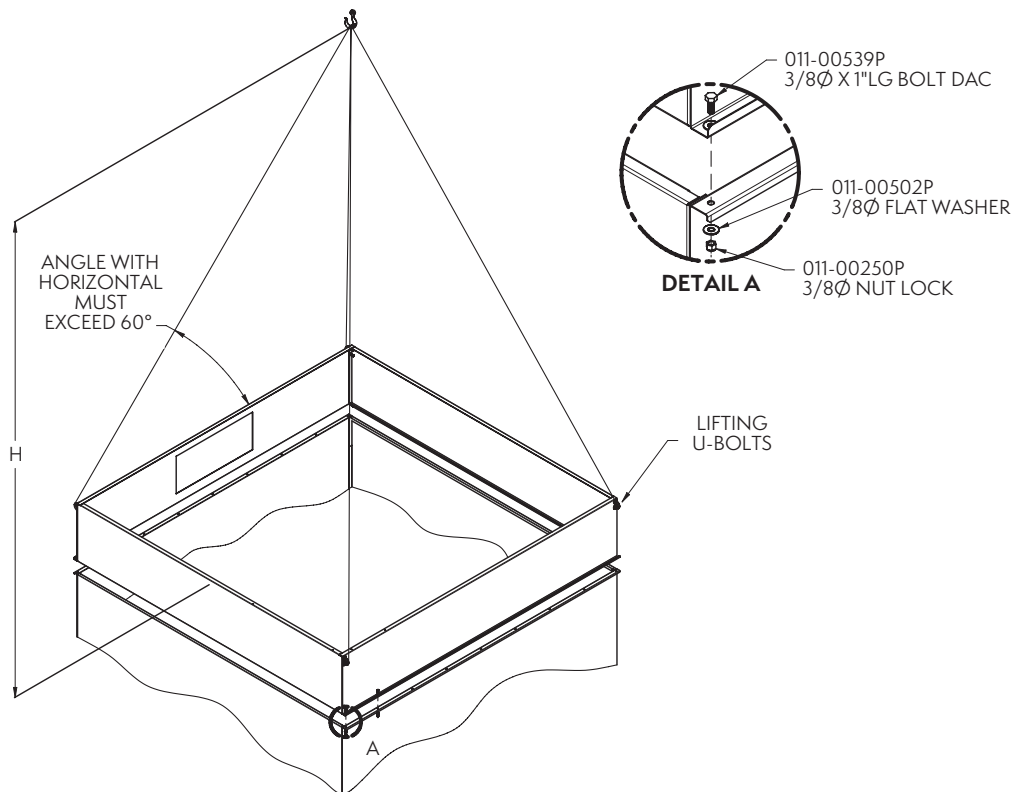

Figure 14 – Discharge Hood Rigging and Assembly (Shown without Dampers)
Some units may be supplied with an optional discharge hood section. This section will ship from the factory as a separate item or loosely mounted on top of either the basin and fan section or casing section to reduce freight charges. Each hood section is equipped with U-bolts located at the four corners for lifting and final positioning (**Figure 14**). Always use safety slings for extended lifts or where any hazard exists.
Install the retainer clips in all four corners as shown in **Figure 14**. For 18-foot-long (5.5 m long) hoods, two (2) additional clips are provided and are to be fastened in the middle of each side.